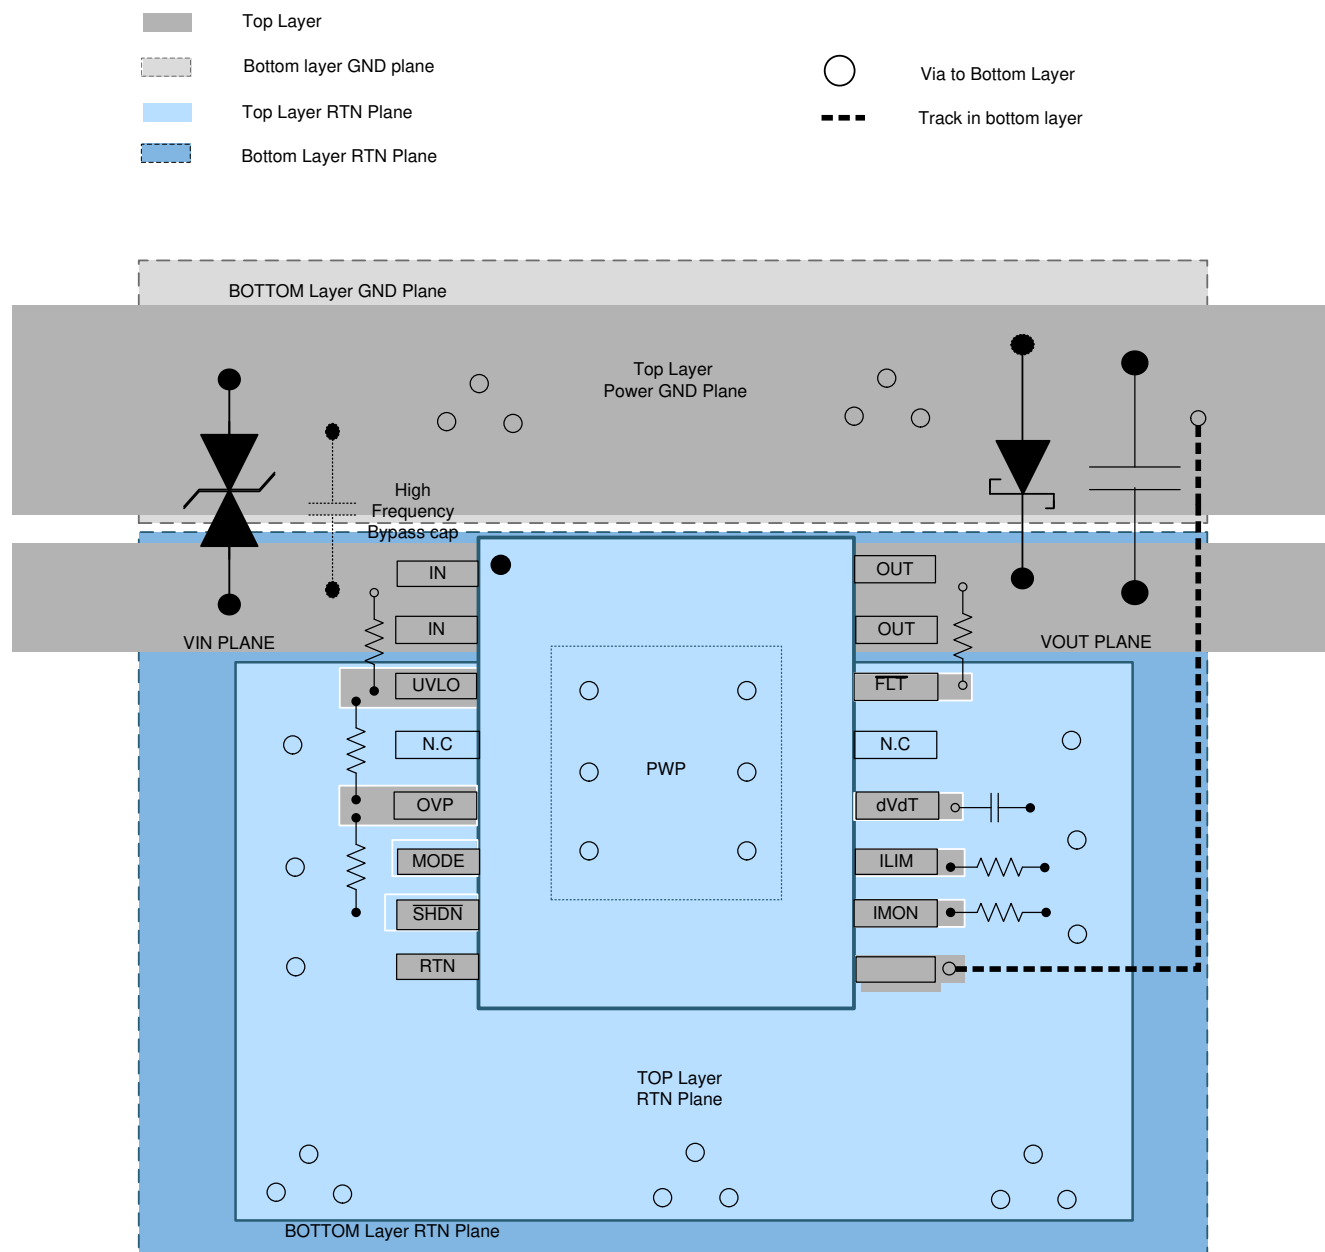

Figure 12-1. Typical PCB Layout Example With HTSSOP Package With a 2 Layer PCB
- The optimum placement of decoupling capacitor is closest to the IN and GND terminals of the device. Care must be taken to minimize the loop area formed by the bypass-capacitor connection, the IN terminal, and the GND terminal of the IC. See Figure 12-1 and Figure 12-2 for PCB layout examples with HTSSOP and VQFN packages respectively.